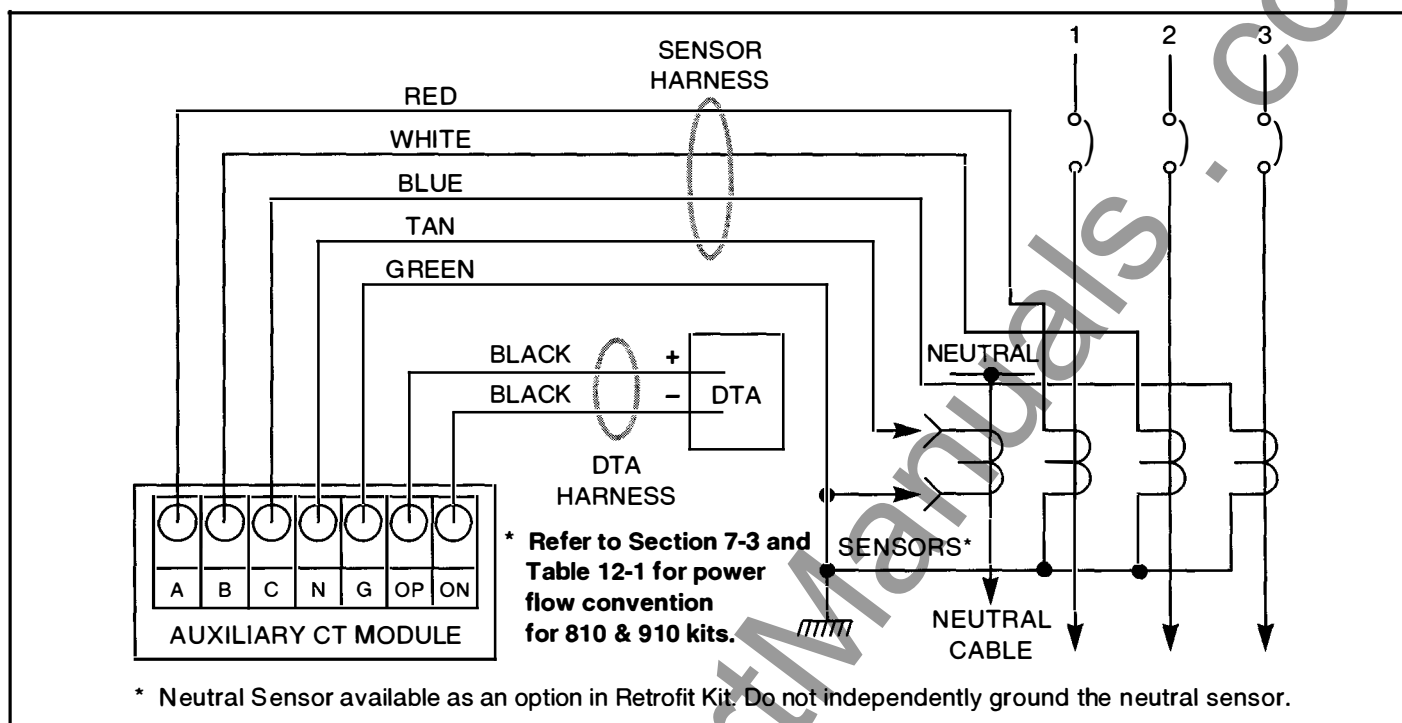

Fig. 12-3 With Ground and With Neutral Sensor 3Ø 4-Wire (LIG, LSG, LSIG)
2. If the retrofit is for a 4-wire system (Figure 12-3 or 12-4,) the green and tan wires provided for the fourth connection are required for connection to an open set of Breaker Secondary Contacts.